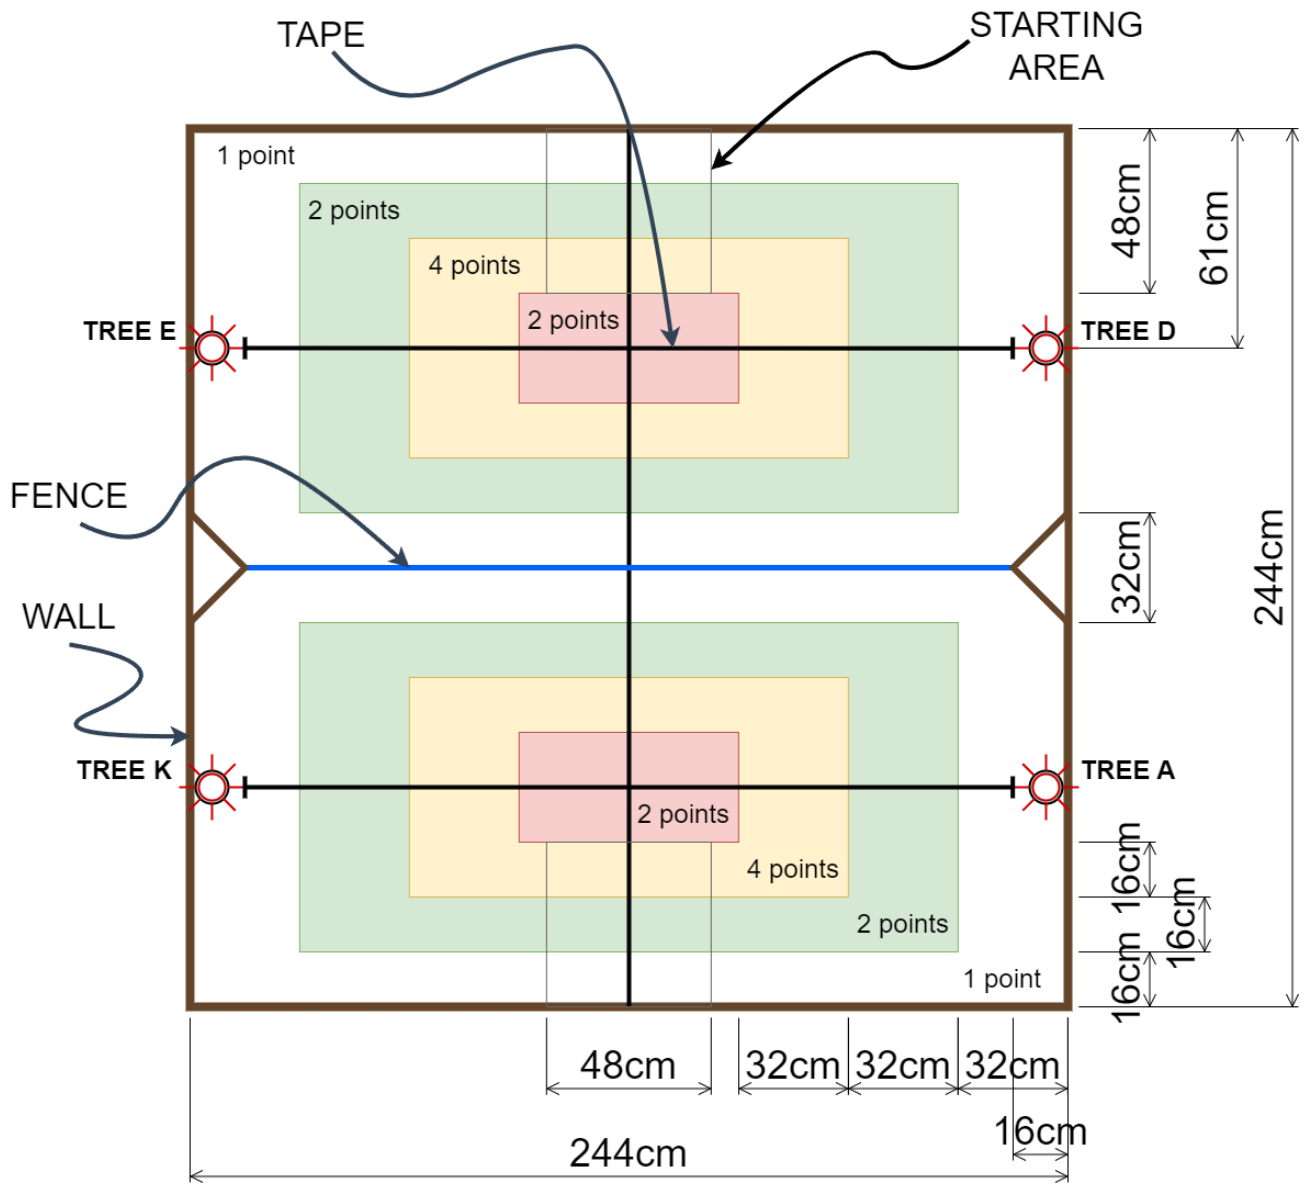

Figure 1: The playing Arena. Ed's YARD is on top, Karl's YARD is on the bottom. All dimensions are ± 2 cm.
- The Arena is an approximately 244 cm by 244 cm with exterior walls 8.25 cm tall. A top view is shown in Figure 1.